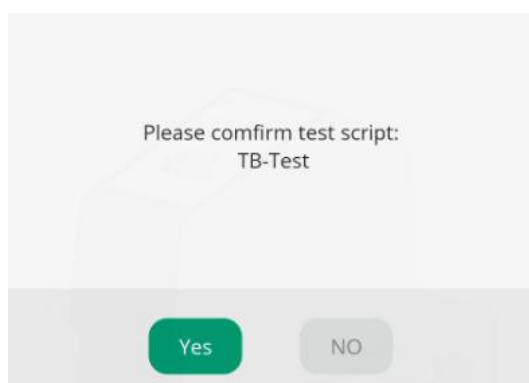
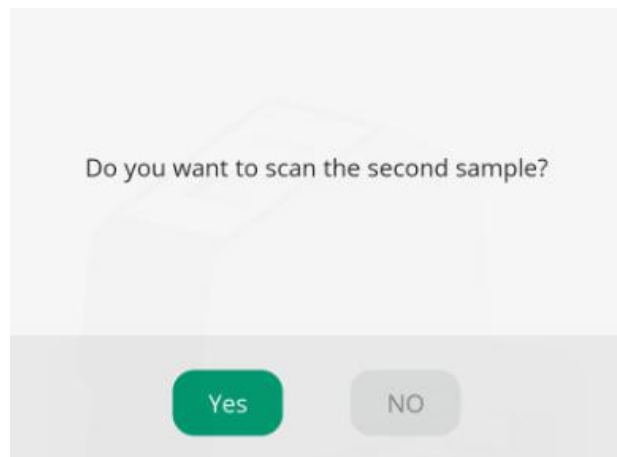

Figure 6-3 Confirm Test Program
Figure 6-4 Do you want to scan the second sample?
3. Click “”, and align the QR code on the iCassette with the scanner. After scanning, a pop-up message will appear prompting: “**Please confirm the program: *****” (where *** represents the program name, as shown in Figure 6-3. The image is for reference only; please refer to the actual program name). At this point, click “**Yes**” in the pop-up window. A second prompt will appear: “**Do you need to scan a second iCassette?**” (as shown in Figure 6-4). Click “**No**” to cancel the operation.
(3) Once the test cassette verification is complete, the software will initiate the fully automated workflow, and the instrument will begin executing the test program.
(4) Click “Stop Testing” to halt the currently running test program.
① If the user needs to perform the automated full workflow, a pop-up message will appear: "Please confirm the program: ***", where *** represents the program name (see Figure 6-3; the image is for reference only, and the actual program name should be based on the running program).
② Click “Yes” then correctly scan and place the test iCassette as prompted by the system. After that, click “Start Running” to begin.
③ Click “No” to cancel the operation.
① If the user needs to perform nucleic acid extraction, after a successful scan, a pop-up message will remind the user to choose between “Extraction” and “PCR” functions.
② Click the “Extraction” button to start the nucleic acid extraction process.
③ Click “Cancel” to stop the process.
④ If the user only needs nucleic acid extraction, after the extraction process is complete, simply remove the PCR tube to obtain the required nucleic acid.